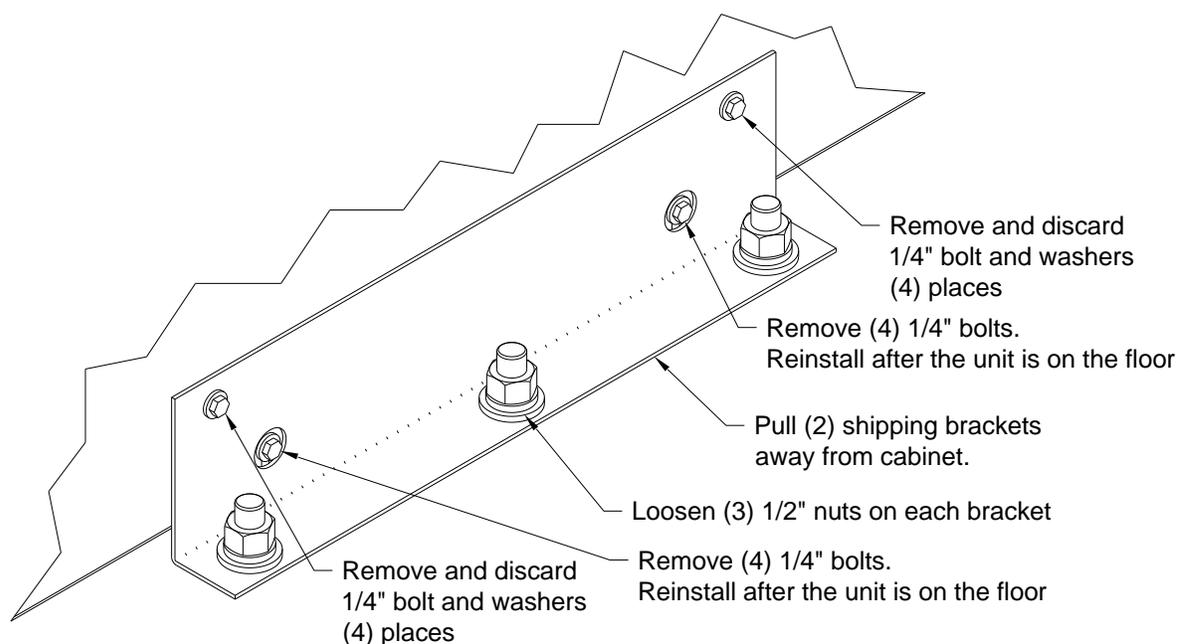

Figure 3 - Shipping Bracket
9. Reinstall the front cover and (4) 1/4" bolts and washers (see figure 3).